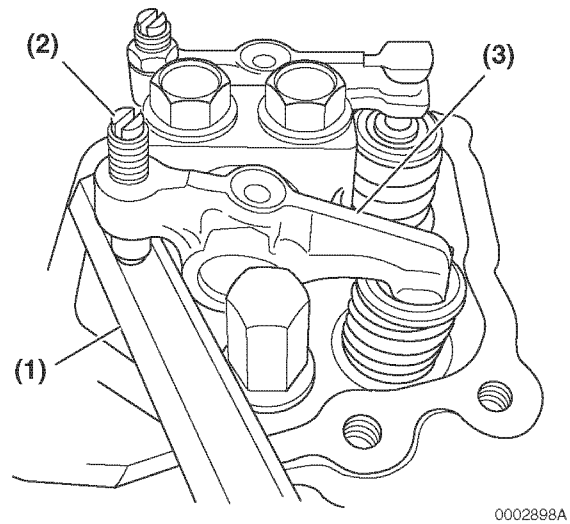

Figure 6-28
4. Remove the intake valve adjustment screw lock nut from the intake valve rocker arm (**Figure 6-28, (3)**) of No. 1 cylinder, and back out the adjustment screw (**Figure 6-28, (2)**) enough to remove the push rod.
Note: The use of a "bridge" tool is needed to support the valve adjustment screw and open the valve. Use a suitable tool that allows adjustment of the valve adjustment screw. An 8 to 10 mm hex wrench is shown as an example in (**Figure 6-28, (1)**).